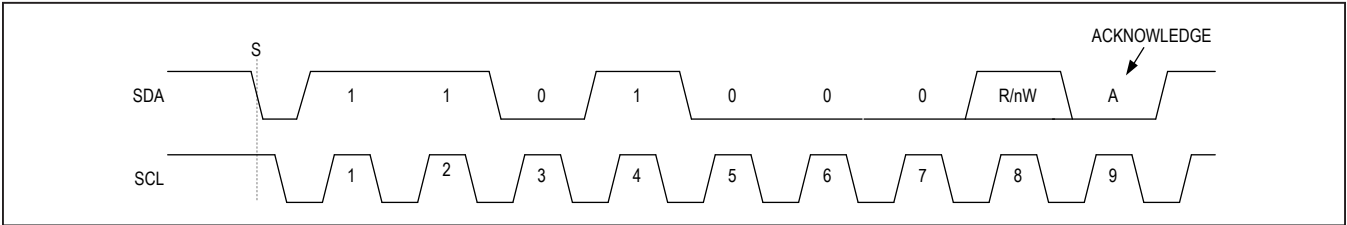

Figure 33. Slave Address Byte Example Using the Power Management Slave Address
Both the I²C bus master and the IC (slave) generate acknowledge bits when receiving data. The acknowledge bit is the last bit of each nine-bit data packet. To generate an acknowledge (A), the receiving device must pull SDA low before the rising edge of the acknowledge-related clock pulse (ninth pulse) and keep it low during the high period of the clock pulse (Figure 33). To generate a not-acknowledge (nA), the receiving device allows SDA to be pulled high before the rising edge of the acknowledge-related clock pulse and leaves it high during the high period of the clock pulse.
Figure 33 is an example of the slave address byte format using the RTCs slave address. As shown, the slave address byte consists of seven address bits and a read/write bit (R/nW). After receiving any of the slave addresses shown in Table 13, the IC issues an acknowledge by pulling SDA low during the ninth clock cycle.